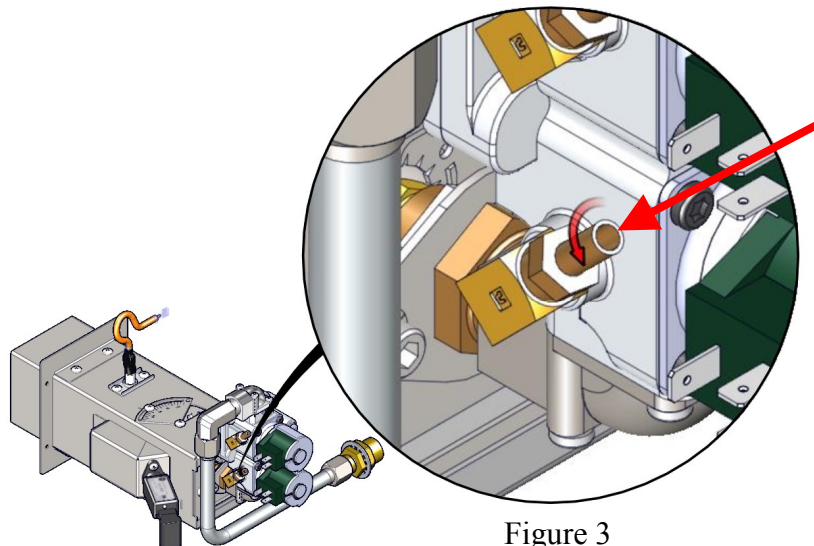

Figure 3
- Loosen adjustment screw 1 full turn counter-clockwise (Figure 3)